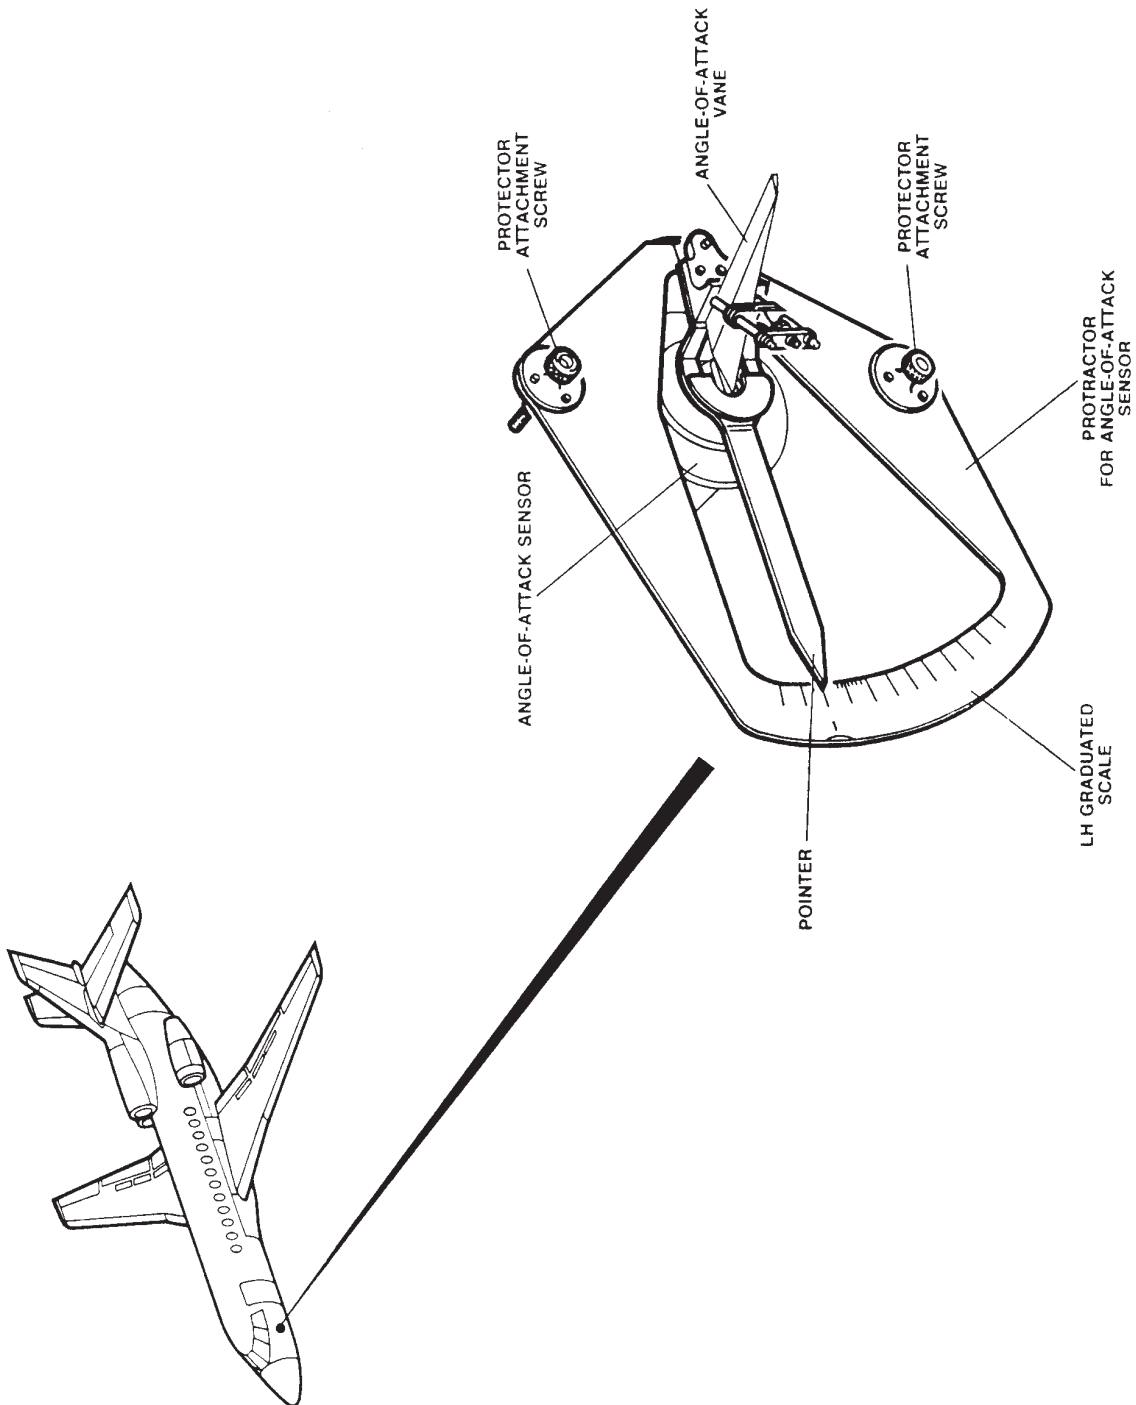

FIGURE 1: CHECK OF ANGLE-OF-ATTACK SENSOR DEFLECTION
- (1) Slowly move the pointer support (Refer to Dassault OEM procedure 27-801 C Figure 1) to increase the LH AoA sensor angle (L11CM).
- (2) Make sure that when angle $14^{\circ} \pm 30'$ is reached:
- (3) On configuration panel (2DL), once the outboard slats are fully extended, make sure that:
- (4) Select an IAS > 265 kt on the pilot air pressure systems.
- (5) Select an IAS < 265 kt on the pilot air pressure system.
- (1) Maintain LH AoA at an angle of $14^{\circ} \pm 30'$. Make sure that outboard slats remain extended.
- (2) Slowly move the pointer support (Refer to Dassault OEM procedure 27-801 C Figure 1) to increase the RH AoA sensor (R11CM) angle to an angle of $17^{\circ} \pm 30'$ and make sure that: